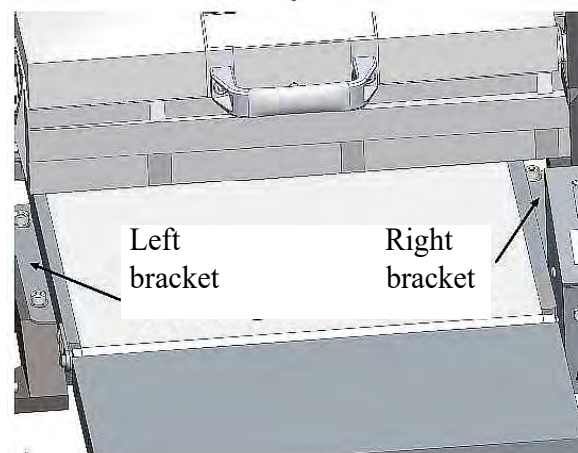

Fig. 26: Set parallelism of feed belt to grinding drum
1. Replace a damaged grinding belt immediately. Check the correct setting of the feed belt at regular intervals. Lubricate monthly all moving parts (Fig.26) such as threaded spindle, pulleys and bearing bushes including the height stop, sliding surfaces and bushes connected to the height adjustment mechanism. Do not use oil or grease for this purpose as it tends to bind sawdust.